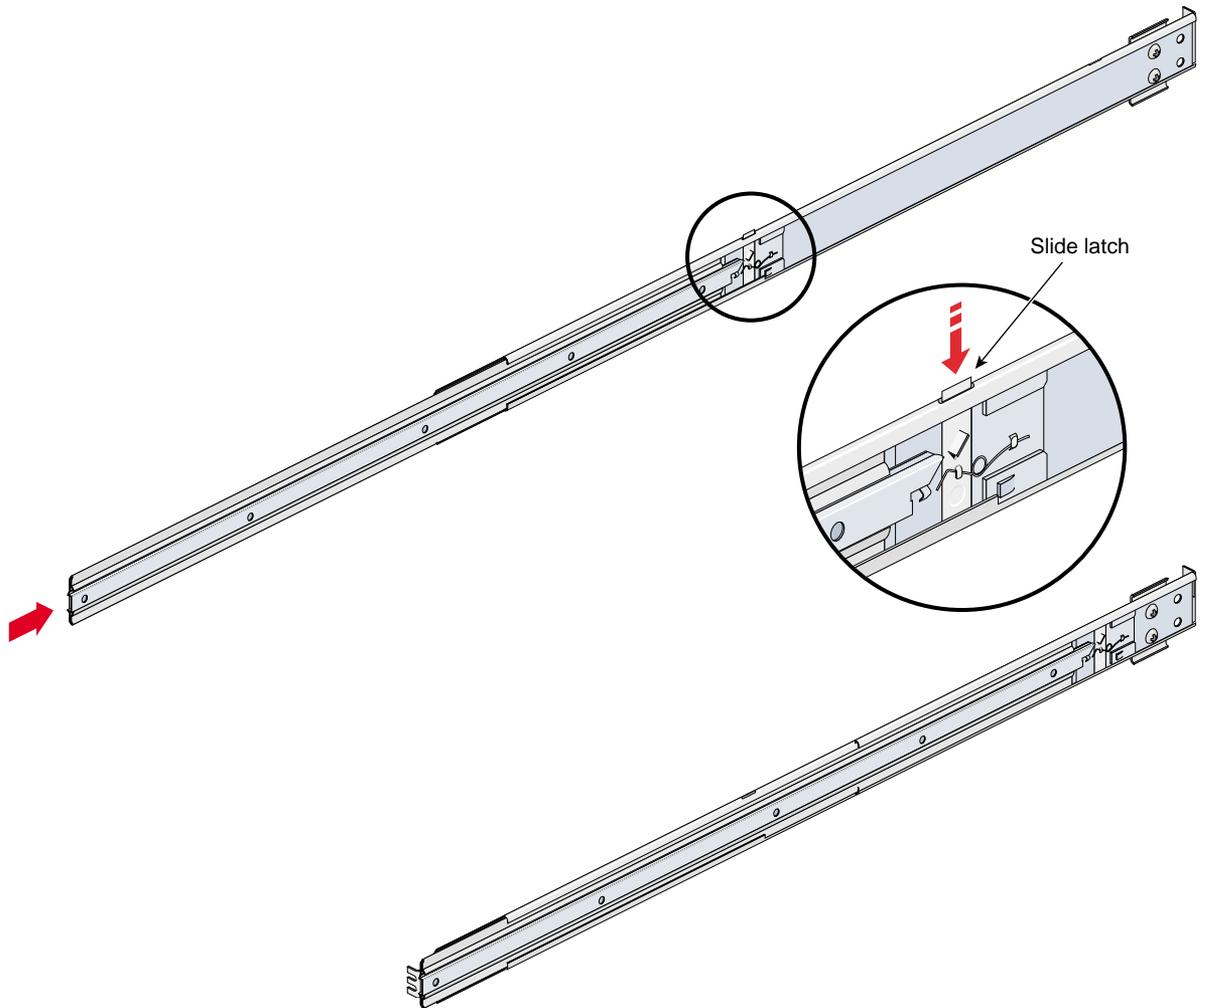

Figure C-11 Releasing the Slide Latches
7. To slide the slide rails back into the rack, push down on the slide latches as shown in Figure C-11.